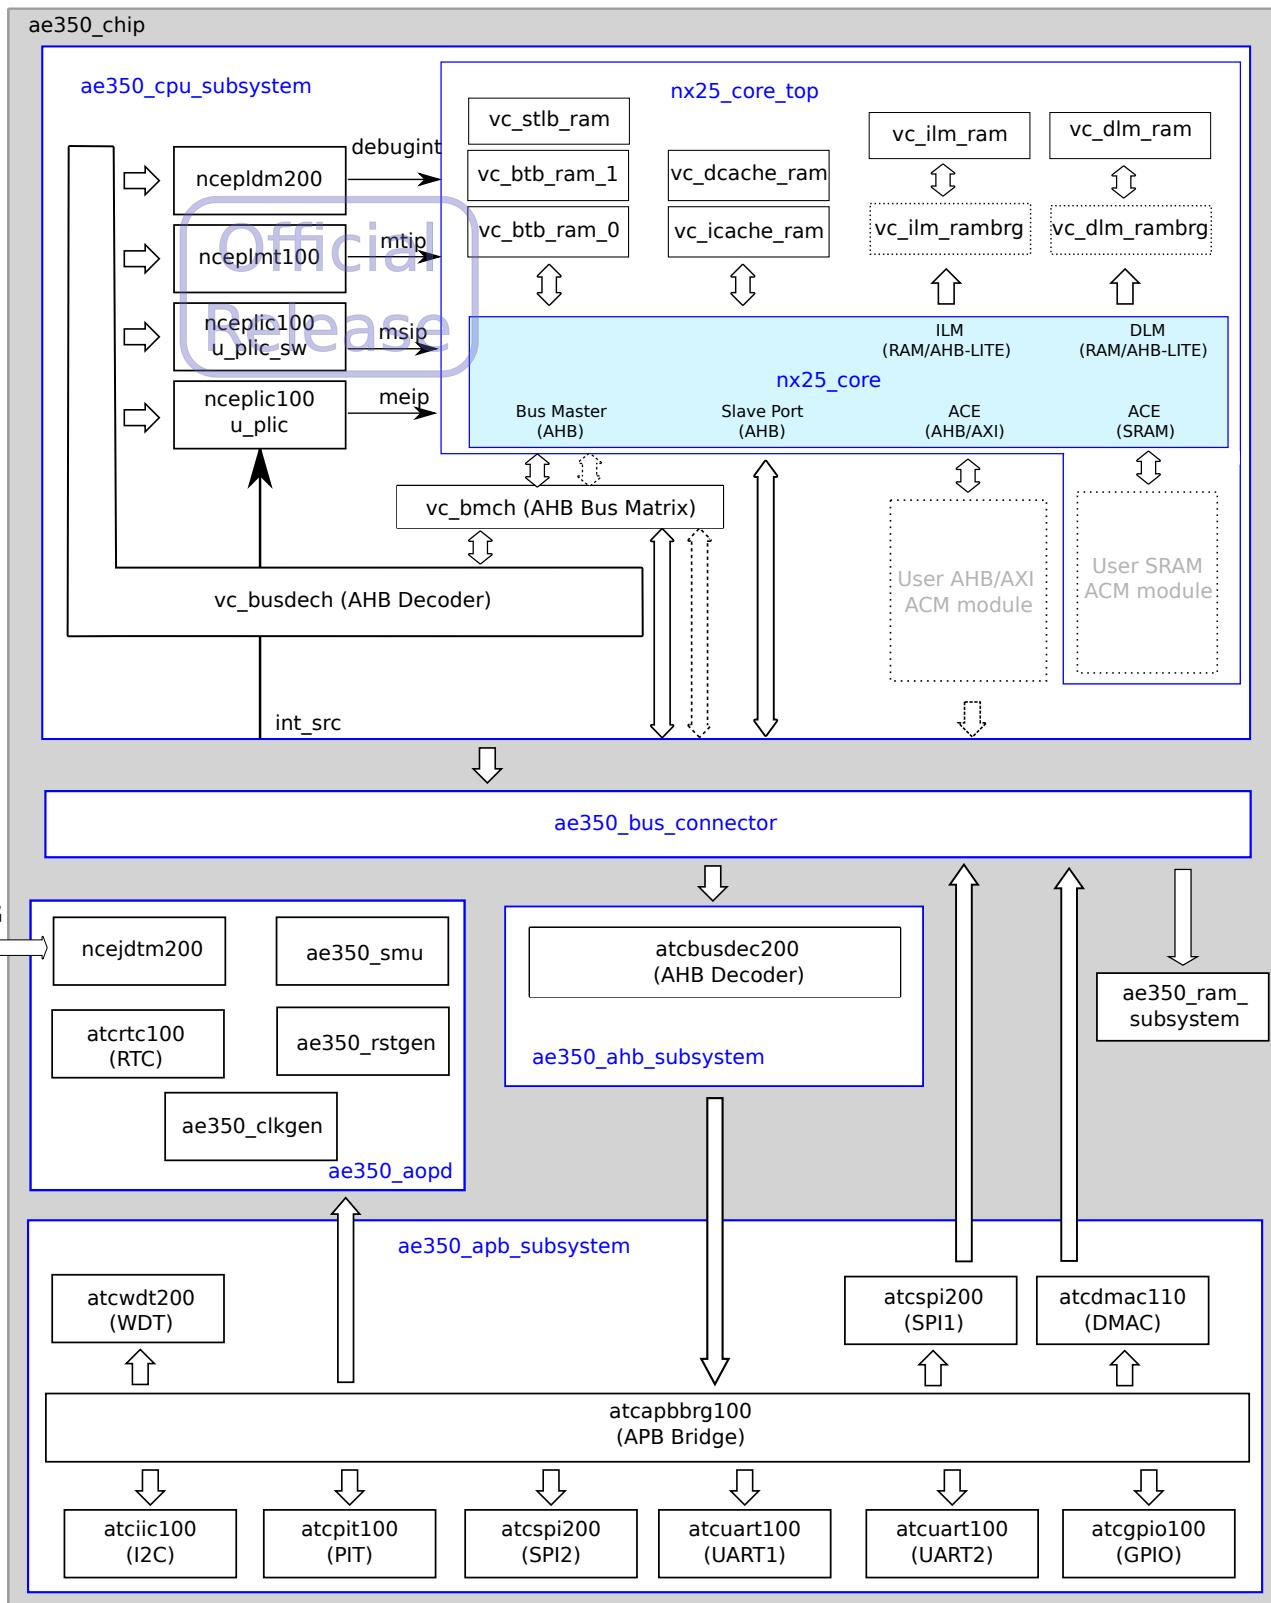
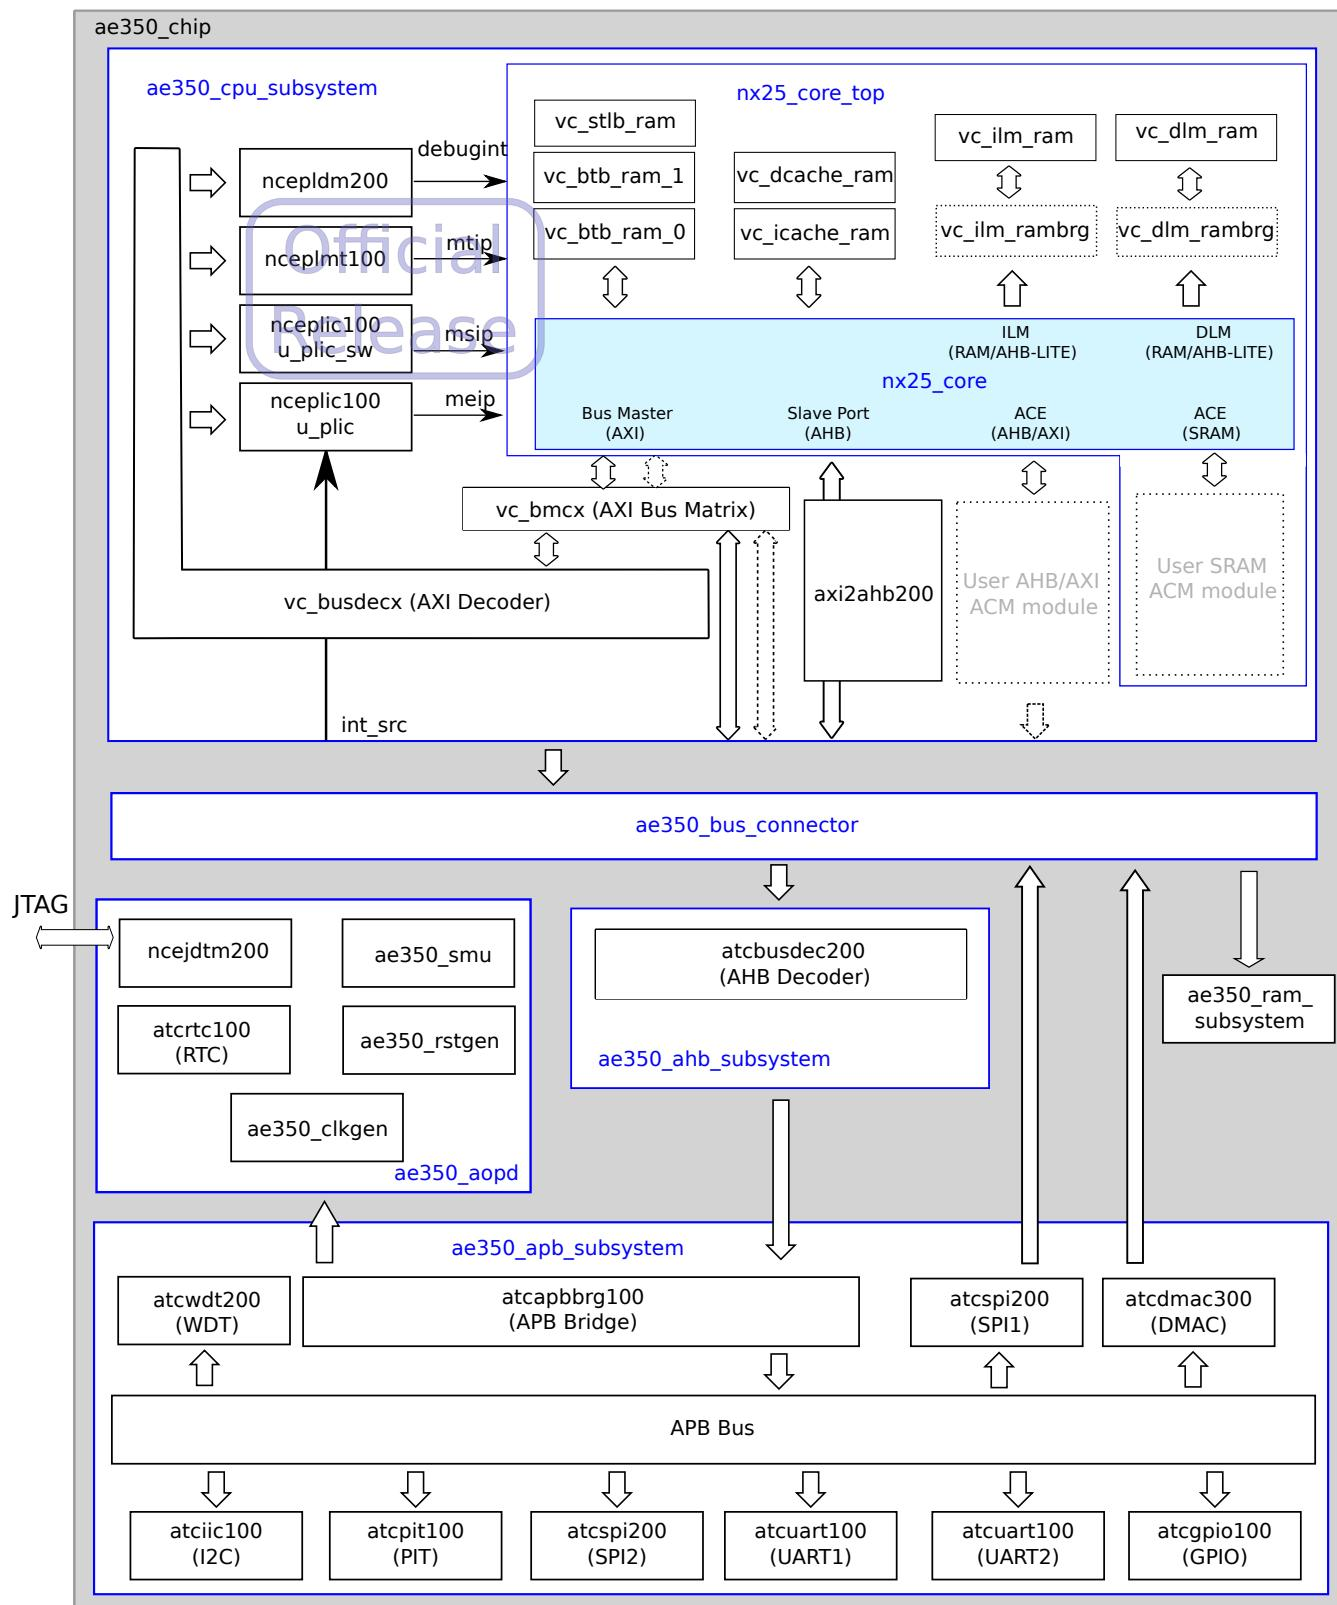

Figure 2: NX25(F) Design Hierarchy for the AHB Framework
Figure 4: Design Hierarchy for the AXI Framework
AE350 (see Section 17) supports two framework types: AHB and AXI. The design hierarchies are illustrated respectively in Figure 2 and Figure 4. The top-level module of this platform is ae350_chip. The ae350_chip module instantiates the NX25(F) processor. The top of the NX25(F) processor design is nx25_core.